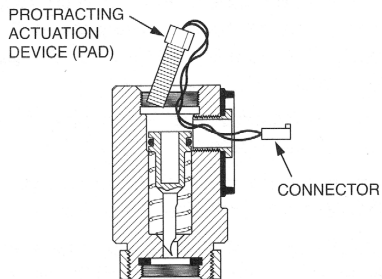

FIGURE 4
6. Before inserting the Protracting Actuation Device (PAD) into the bore in the top of the pin, route the PAD connector from the inside of the actuator to the outside of the actuator through the port in the actuator body. Then, as the connector is being pulled through the port, insert the PAD into the bore in the top of the actuation pin. See Figure 4.